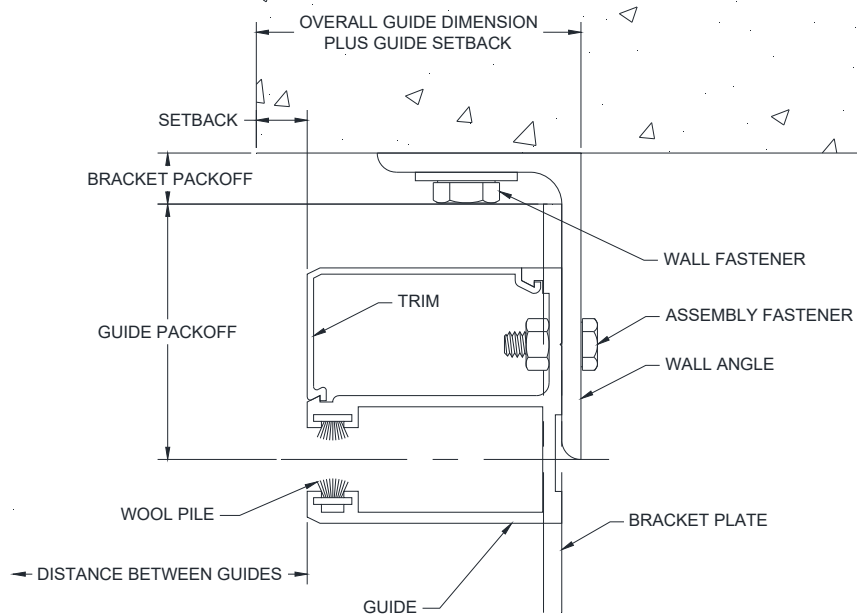

Figure 5.1 – Face of Wall “E” Guide
▪ Face of Wall Units Mounting to Existing Wall Construction (Figures 5.1 - 5.2):
2. Measure the distance from the opening/jamb to the heel of the wall angle (on “E” guides) or the toe of the wall angle (on “Z” guides). This distance is referred to as the “*Overall Guide Dimension plus Guide Setback*”; see **Figures 5.1** and **5.2**. See the job construction drawings for the guide setback and overall guide dimensions.